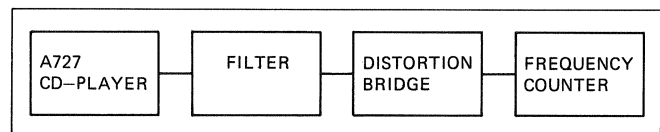

Fig. 4.13
-> Fig. 4.13
- Measuring arrangement according to Fig. 4.13 with distortion measurement filter connected to VARIABLE OUTPUT [27].